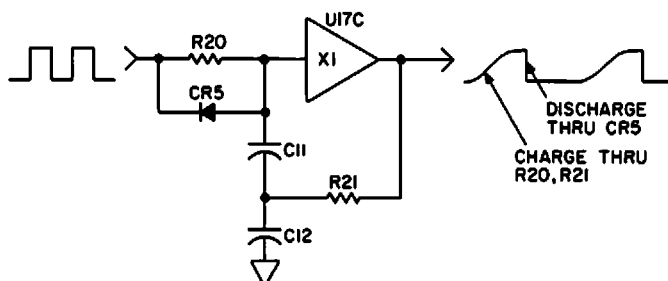

Figure 2-23
3.5.10 Ramp Generator (Figure 2-23)